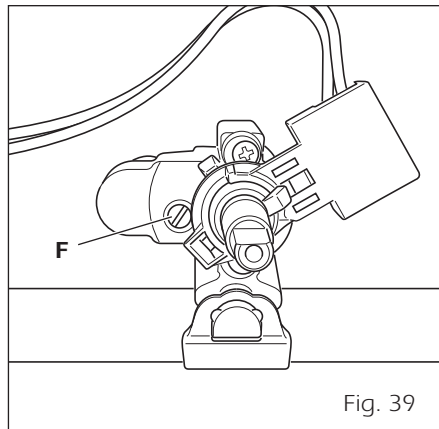

Fig. 39
- With a thin screwdriver turn the screw **F** until adjustment is correct (fig. 39).